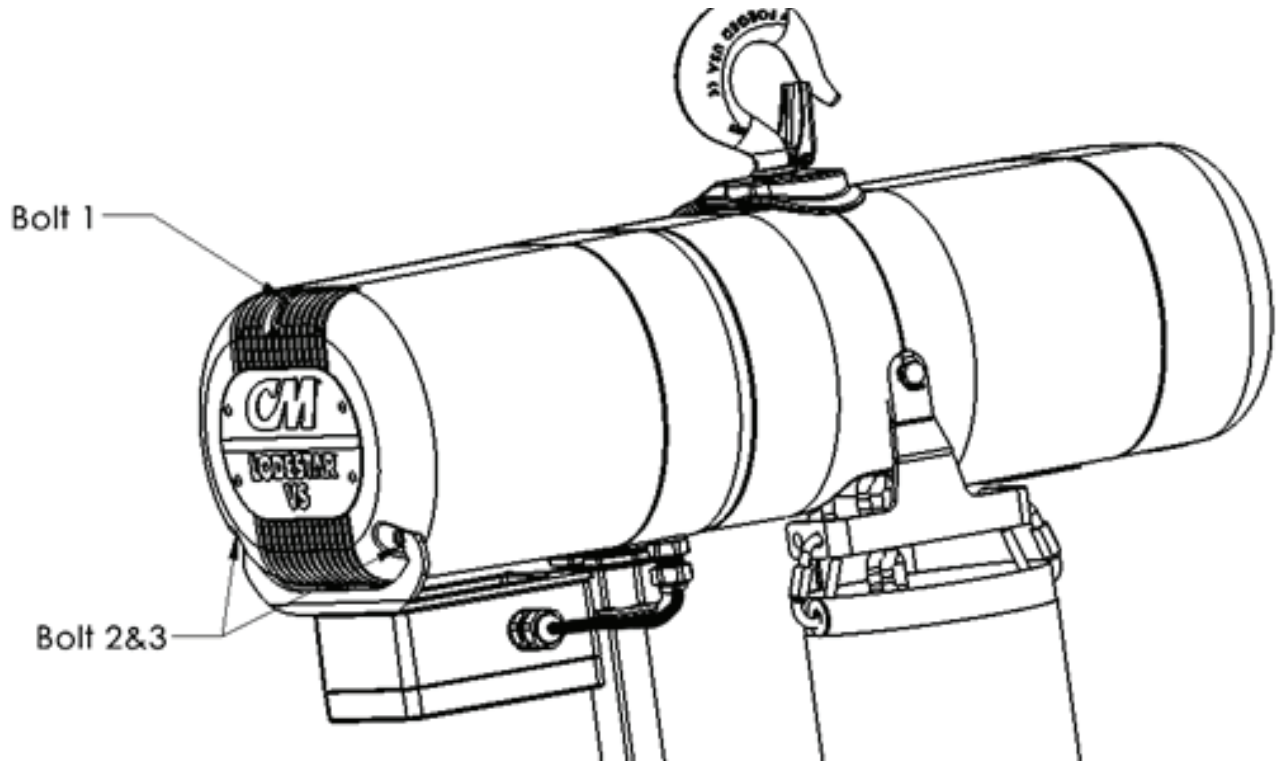
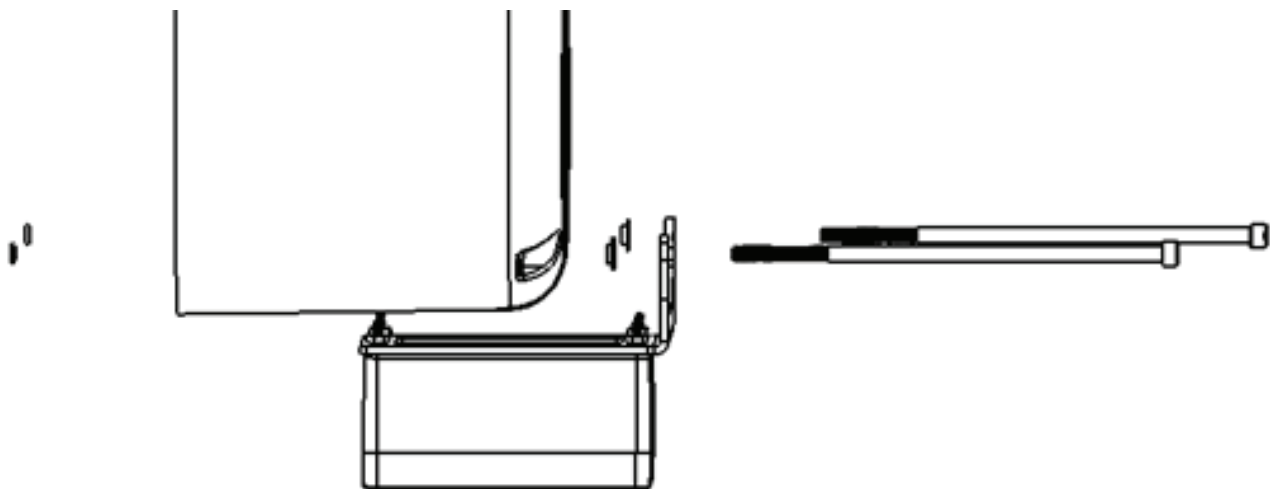

Figure 7: Replacement End Cover Bolts 2 & 3
Figure 8: End Cover Assembly Order
7. With the ethernet now plugged into the VFD, use the 2 longer replacement end cover bolts (2 & 3) (shown with the replacement O-ring and washer in **Figure 7** and **Figure 8**). Place the hoist VFD end cover back on and torque the bolts to (50-60 in-lbs). Bolt 1 on the top of the hoist for the end cover does not require replacement unless it suffers damage, since it does not need to be longer to accommodate the bracket. Place the bolt retaining O-rings on the inside of the cover while the washer is between the cover and the bracket.